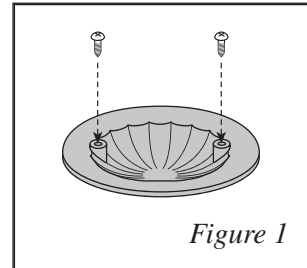

Figure 1
1. Insert small screws into holes on the underside of lens hood as shown in *Figure 1*. Only screw them part way so they can twist lock into place on top of lens.